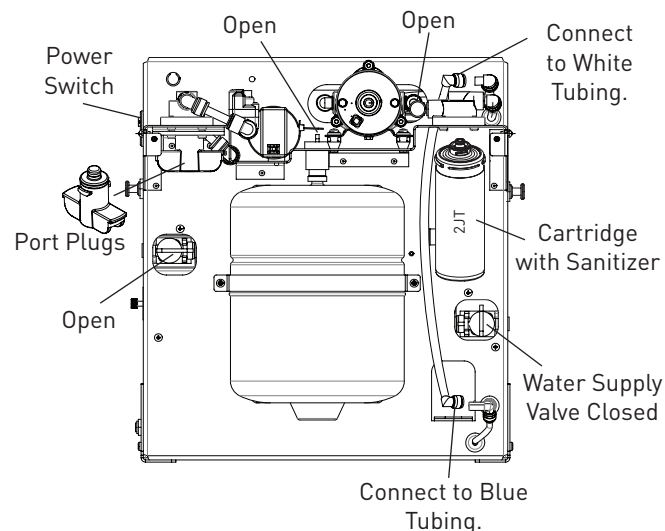

Figure 12
5. Lubricate o-ring with a high quality silicone lubricant. Replace the central plug assembly and insert the flushing cartridge into the right side head location for the Everpure 4FC5-S Cartridge. Refer to Figure 12.